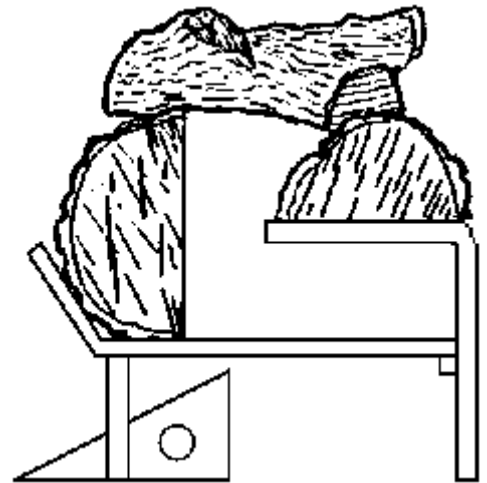

Figure 5
3. The remaining logs are **top logs**. These logs are placed diagonally across the bottom logs and can be arranged to create the most realistic flame patterns. **(See Figure 5.)**